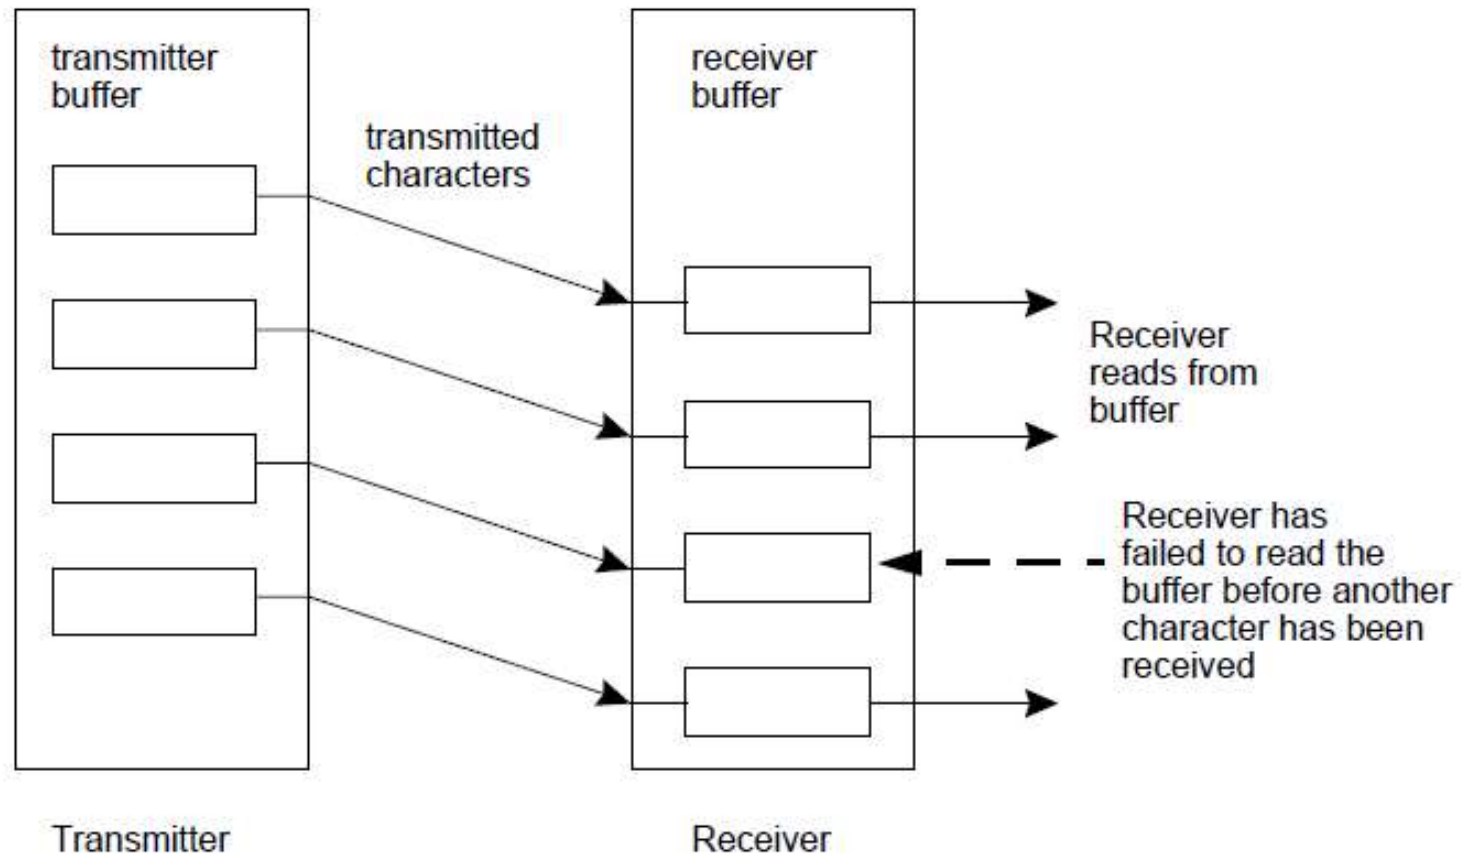

Figure 3: Transmission and reception of characters
- An example of this is illustrated in Figure 3.